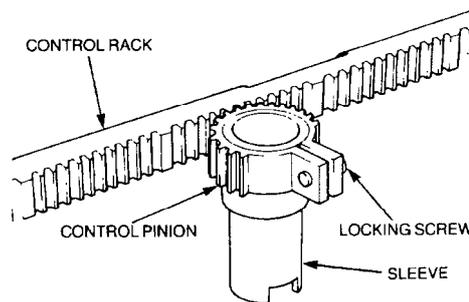

Figure 76 Checking the Control Rack and Control Pinion
- m. Check the control pinion locking screw for damage (Figure 76) which may prevent the control pinion from being locked in position. Replace worn or damaged parts as necessary.